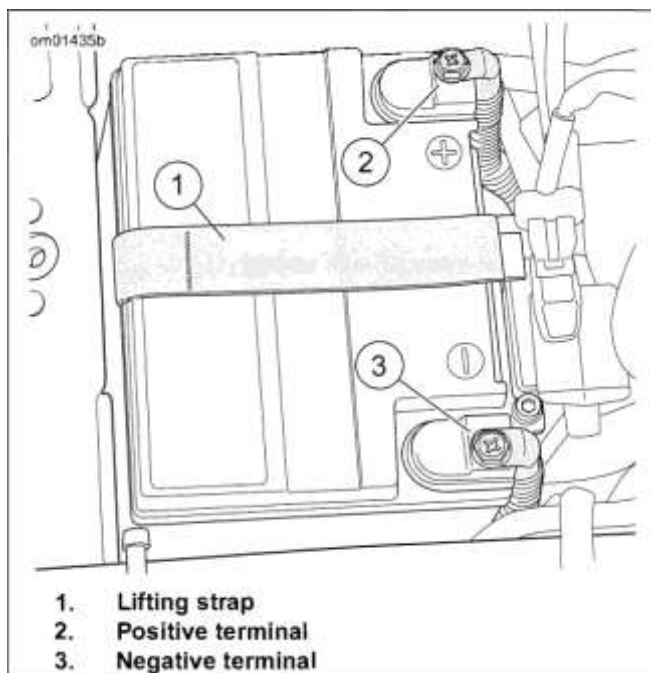

Figure 2-43. Battery Compartment
1. See Figure 2-43. Disconnect both battery cables (2, 3), negative cable first.
2. Pull up on battery strap (1) to raise battery.
2. See Figure 2-43. Place battery into battery tray, terminal side forward.